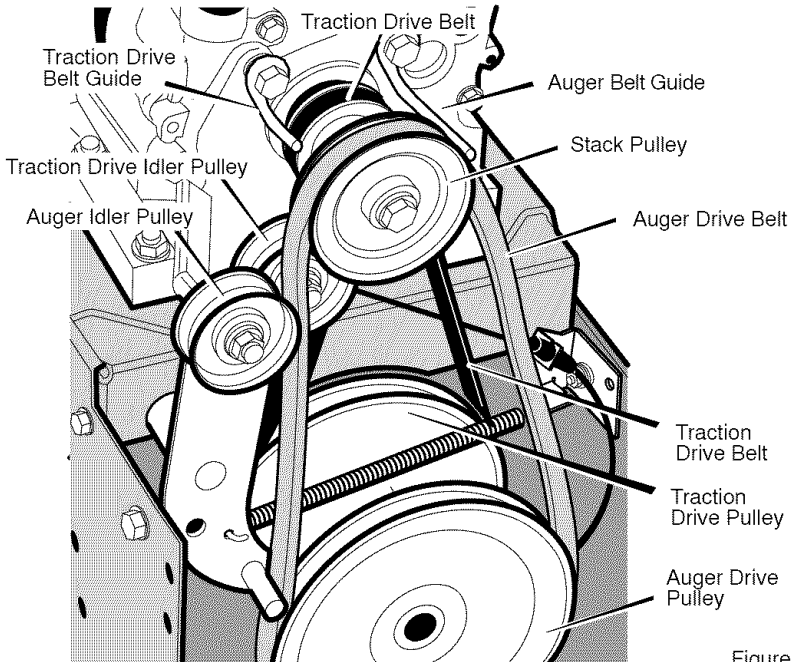

Figure 40
4. Loosen nut on traction idler pulley and move traction idler pulley towards belt about 1/8 inch (3 mm) (see Figure 40).
3. Loosen nut on auger idler pulley and move auger idler pulley towards belt about 1/8 inch (3 mm) (see Figure 40).
5. Loosen the **auger belt guide**. Pull the **auger belt guide** away from the **auger drive pulley** (see Figure 40).
9. Remove the old **auger drive belt** from the **auger drive pulley**. Replace the **auger drive belt** with an original factory replacement belt available from an authorized service center (see Figure 40).
4. Loosen the nut on the **drive idler pulley** (see Figure 40). Move the **pulley** the maximum distance away from the **traction drive belt** and then tighten the nut on the **pulley**.